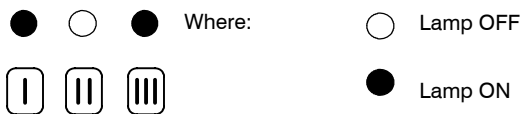

Fig. 19
- 12 Press the reset button D repeatedly (4 times) until the lamps F give the indication as in Fig. 19 (ignition pressure adjustment mode).